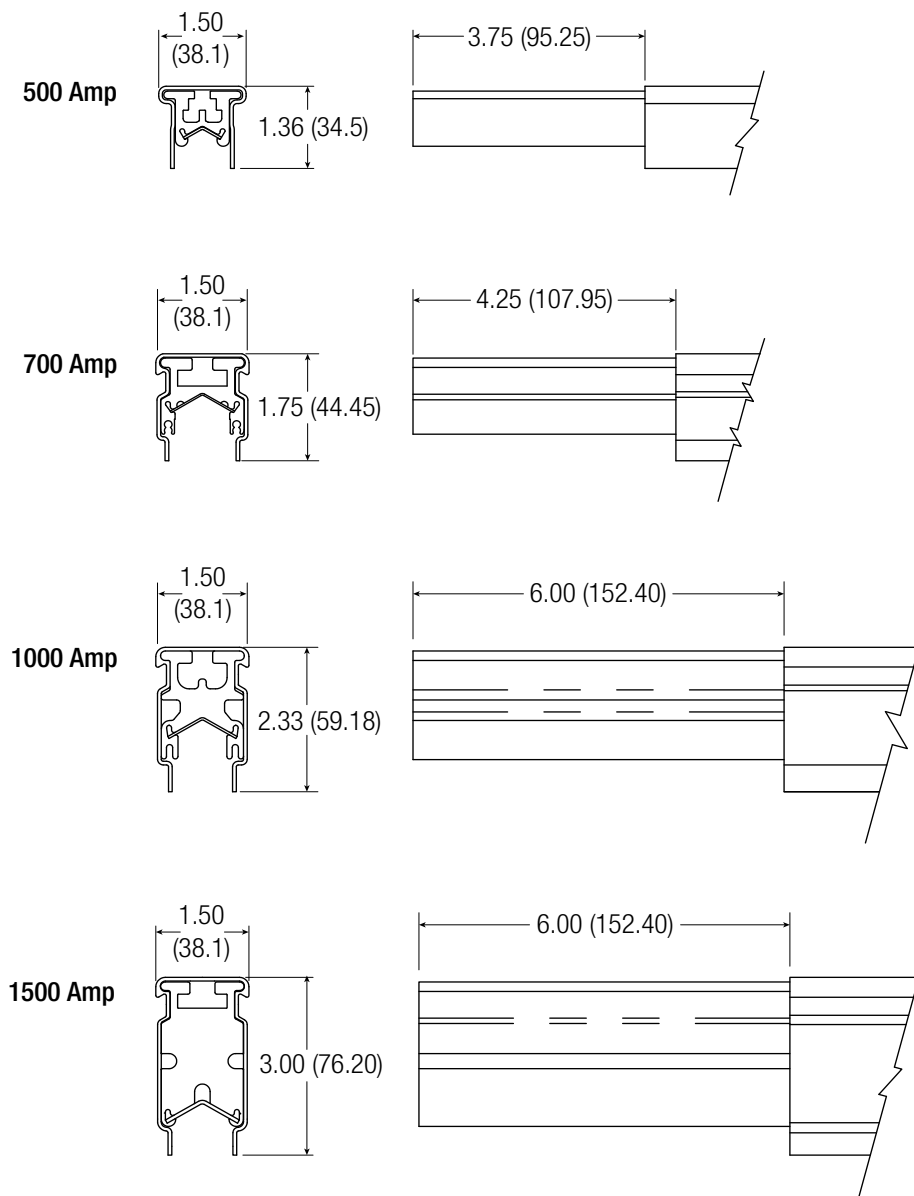

Figure 4-1
- The conductor cover is always shorter than bar length. See Figure 4-1.